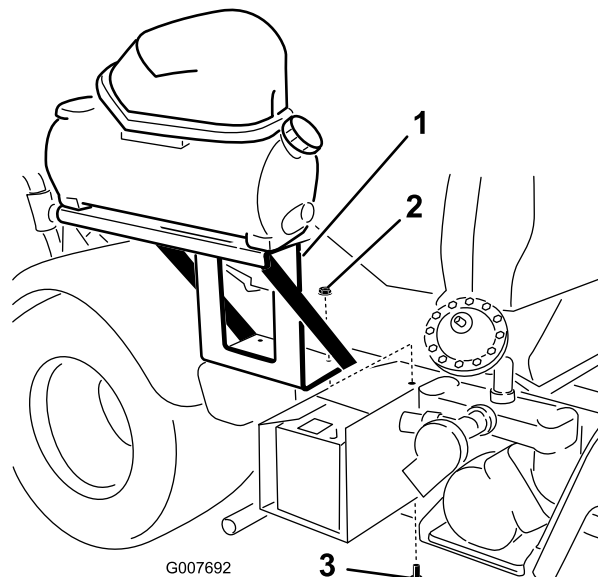

Figure 5
2. Install the bracket to the holes in the battery box using the 4 carriage bolts (3/8 x 1-1/4 inches) and 4 locknuts (3/8 inch) (Figure 5).